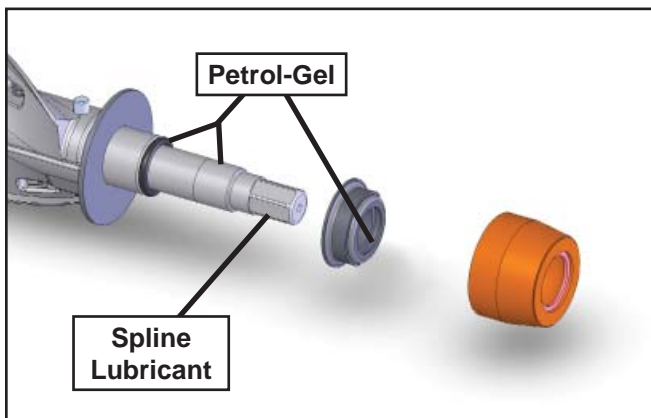

Figure 3-6 Rear Seal Assembly
- C. Install the stainless steel rear seal adapter into the rear seal dry (without lubricant). Lubricate the inside surface of the rear seal adapter and install it onto the auger shaft. DO NOT lubricate the outside of the rear auger seal (Fig. 3-6).